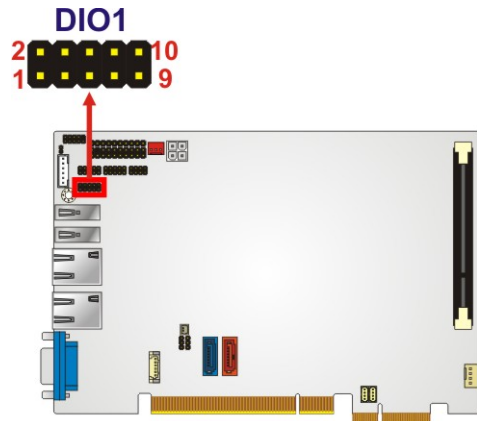

Figure 3-7: DIO Connector Location
- CN Location:** See **Figure 3-7**